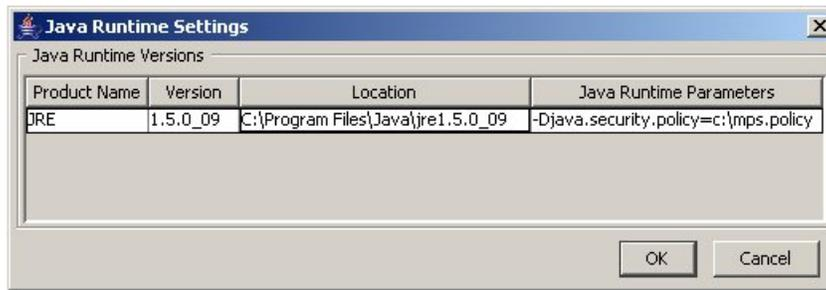

Figure 93: Java Runtime Settings Dialog Box
3. Click **View** in the **Java Applet Runtime Settings** pane. The Java Runtime Settings dialog box appears as shown in Figure 93: Java Runtime Settings Dialog Box.